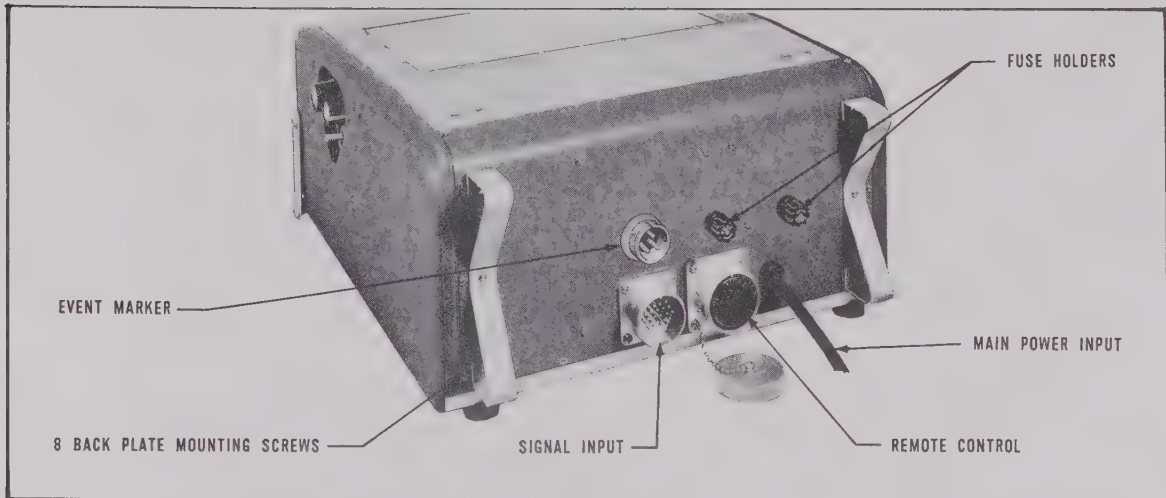

Fig. 7. Rear of Brush Portable Six Channel Oscillograph, Model RD 2361 00
3. Connect the SIGNAL INPUT connector (Fig. 7) with the Junction Box by means of the 25 foot cable supplied.
To operate the accessory Event Markers it is necessary to solder two leads from switch (customer supplied) to the portion of the connector matching the event marker connector on the back of the oscillograph. Fig. 7. Pin 2 of the connector is in the HOT or common pin while pin 3 completes the circuit to the Right Event Marker and pin 1 completes
1. Connect the Remote Control Box, Model RA2403-01, or the Combination Remote Control Box, Model RA2403-02, to the AN connector on the rear of the oscillograph indicated as REMOTE CONTROL in Fig. 7.